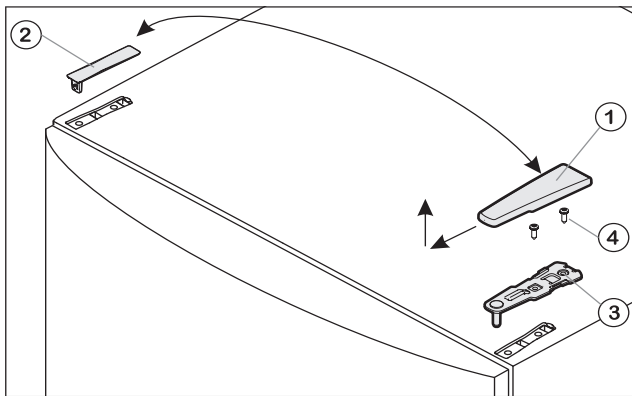

Fig.1
- Pull off the cover Fig. 1 (1) forwards and upwards.
- Lift off the cover Fig. 1 (2).
- Unscrew the upper turn hinge Fig. 1 (3) (2x Torx® 25) Fig. 1 (4) and lift it off.
- Insert the upper turn hinge Fig. 1 (3) in the door on the new hinge side.
- Screw the upper turn hinge firmly into place (with 4 Nm) (2x Torx® 25) Fig. 1 (4). Possibly make preliminary holes with a bradawl or use a cordless screwdriver.
- Apply the cover Fig. 1 (1) and cover Fig. 1 (2) to the opposite side from the outside and snap them into place.